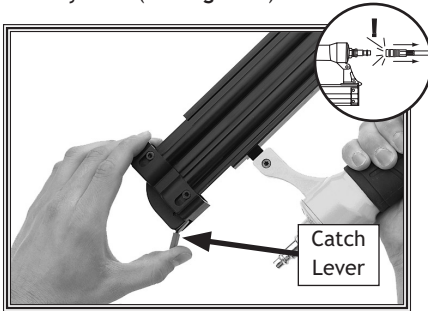

Figure 2. Releasing locking catch lever.
2. Press down on the locking catch lever and slide the magazine pusher all the way back (see **Figure 2**).